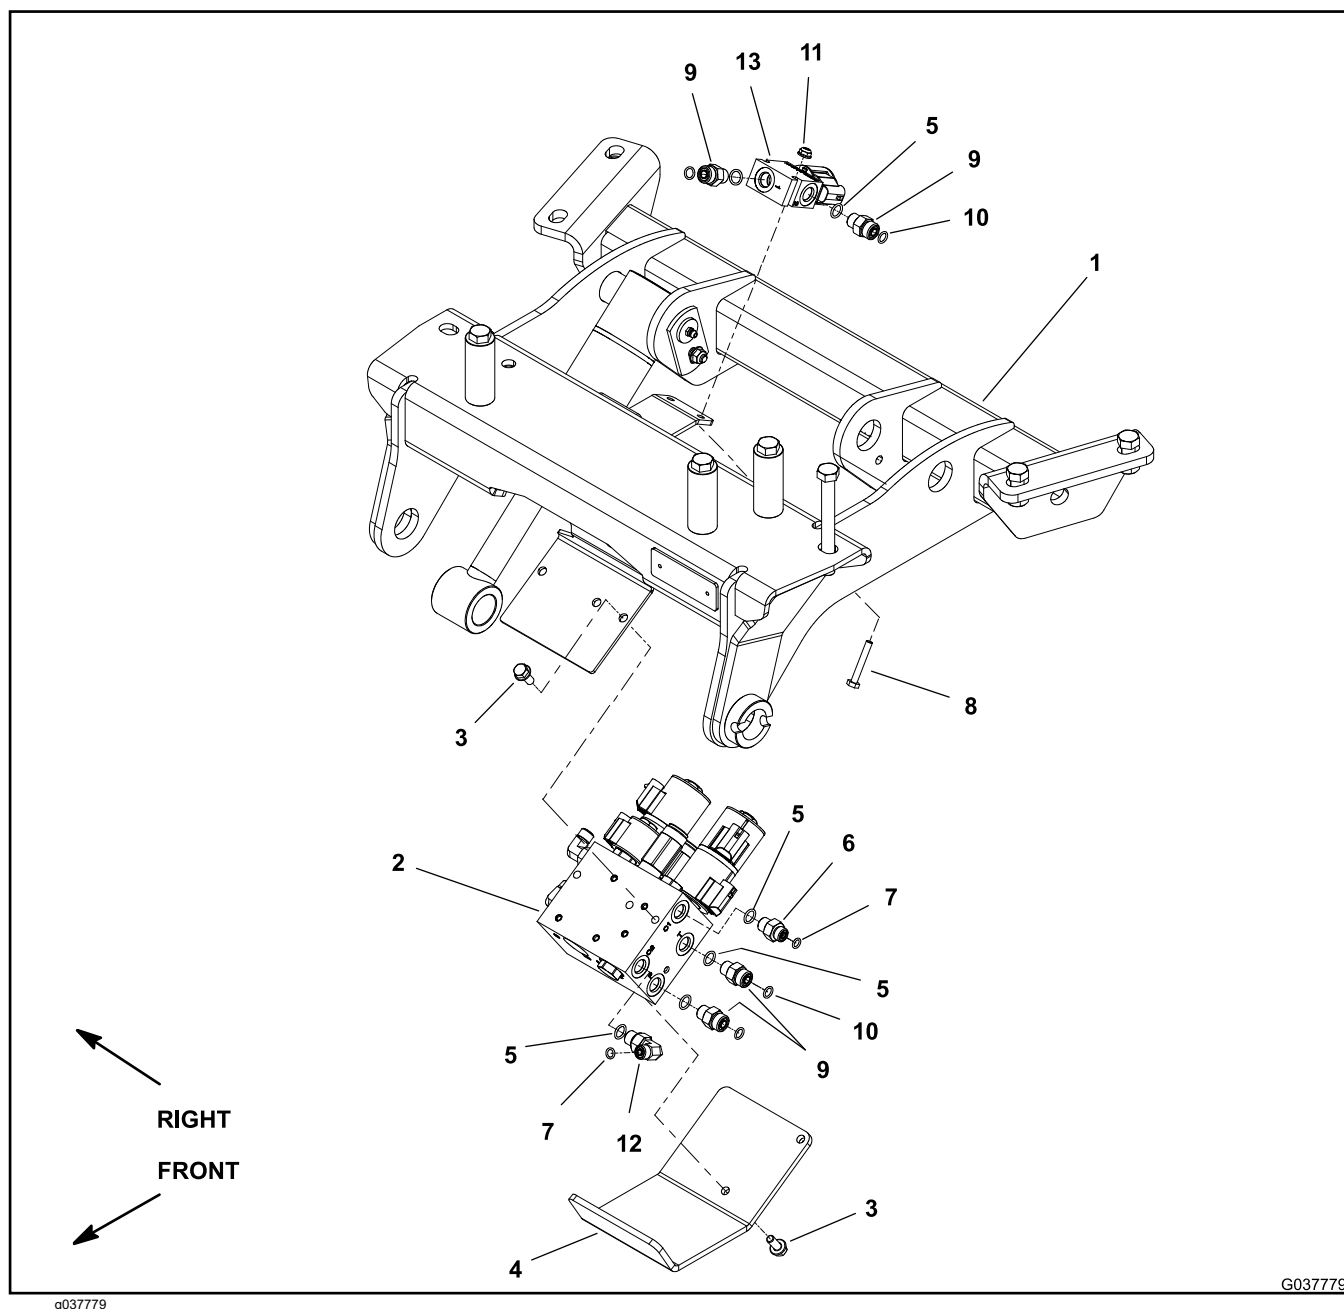

Figure 156
12. Remove the fasteners that secure the manifold to the QAS frame (Figure 156), and remove the manifold from the machine.